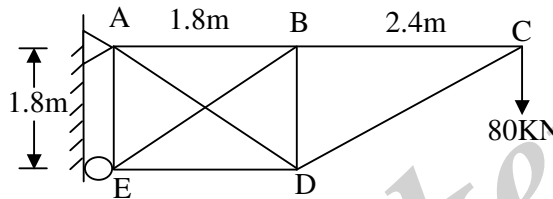

Figure 4
7. An indeterminate frame is shown in Figure 4, Take AE is constant for all the members. Find the final forces in all the members. Use Energy theorem.